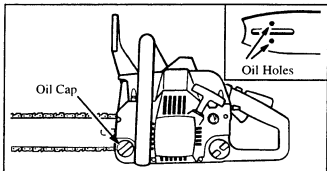

Figure 15
- b. Turn the saw on its side with oil cap up. See oil cap location. Figure 15.